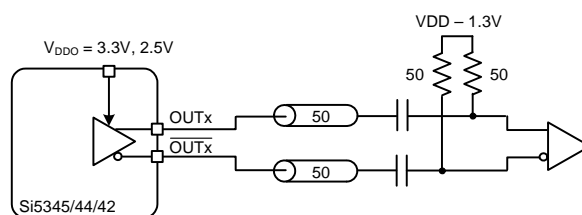

Figure 19. Supported Differential Output Terminations
The differential output drivers support both AC coupled and DC coupled terminations as shown in Figure 19.
- **Differential Normal Swing Mode:** When an output driver is configured in normal swing mode, its output swing is selectable as one of 7 settings ranging from 200 mVpp_{se} to 800 mVpp_{se} in increments of 100 mV. The output impedance in the Normal Swing Mode is 100 Ω differential. Any of the terminations shown in Figure 19 are supported in this mode.
- **Differential High Swing Mode:** When an output driver is configured in high swing mode, its output swing is configurable as one of 7 settings ranging from 400 mVpp_{se} to 1600 mVpp_{se} in increments of 200 mV. The output driver is in high impedance mode and supports standard 50 Ω . PCB traces. Any of the terminations shown in Figure 19 are supported in this mode.